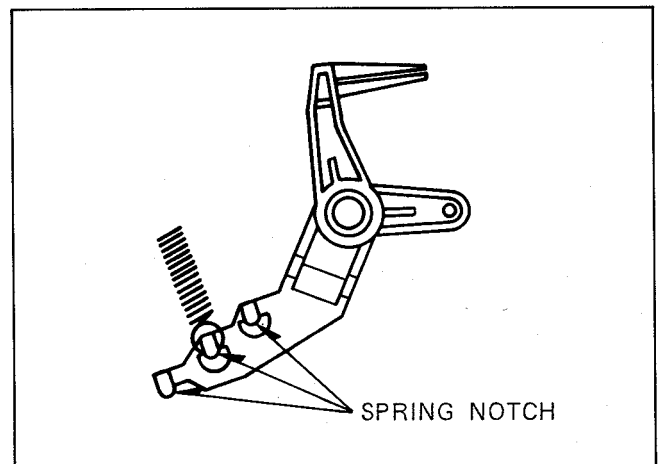

Fig. M3
3. If it is out of specification, change the spring notch as shown in Fig.M3.